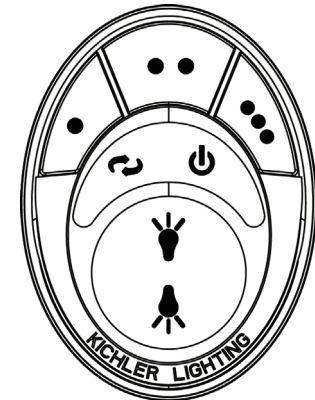

Fig. 32
**Cool Weather Operation:** Reverse (clockwise). An upward airflow moves warm air off of the ceiling (Fig. 32). This allows you to set your heating unit on a cooler setting without affecting your general comfort.